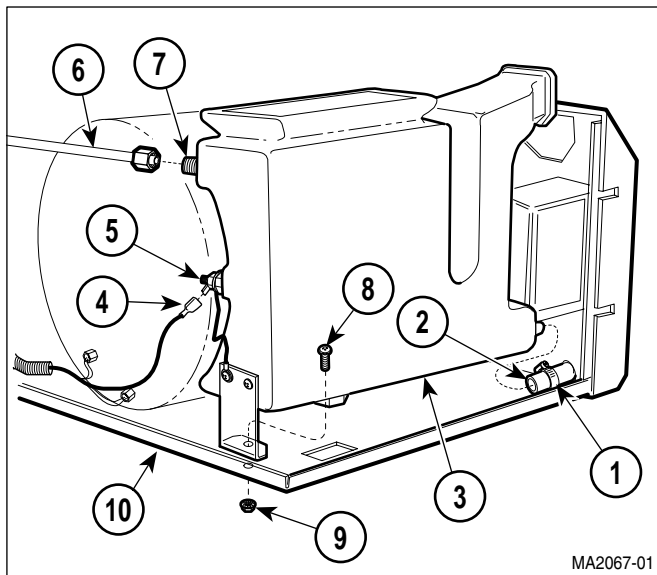

Figure 4-25. Condensing Tank Assembly Removal / Installation
- (4) Turn sterilizer upright.
- (5) Remove top cover (Refer to para 4.2).
- (6) Remove back panel (Refer to para 4.5).
- (7) Remove bellows assembly (Refer to para 4.7).
- (8) Loosen hose clamp (1, Figure 4-25) and remove sight/drain tube (2) and hose clamp from condensing tank assembly (3).
(1) Position condensing tank assembly (3, Figure 4-25) on base (10) and secure using screw (8) and locknut (9).
(2) Connect vent tube (6) to fitting (7).